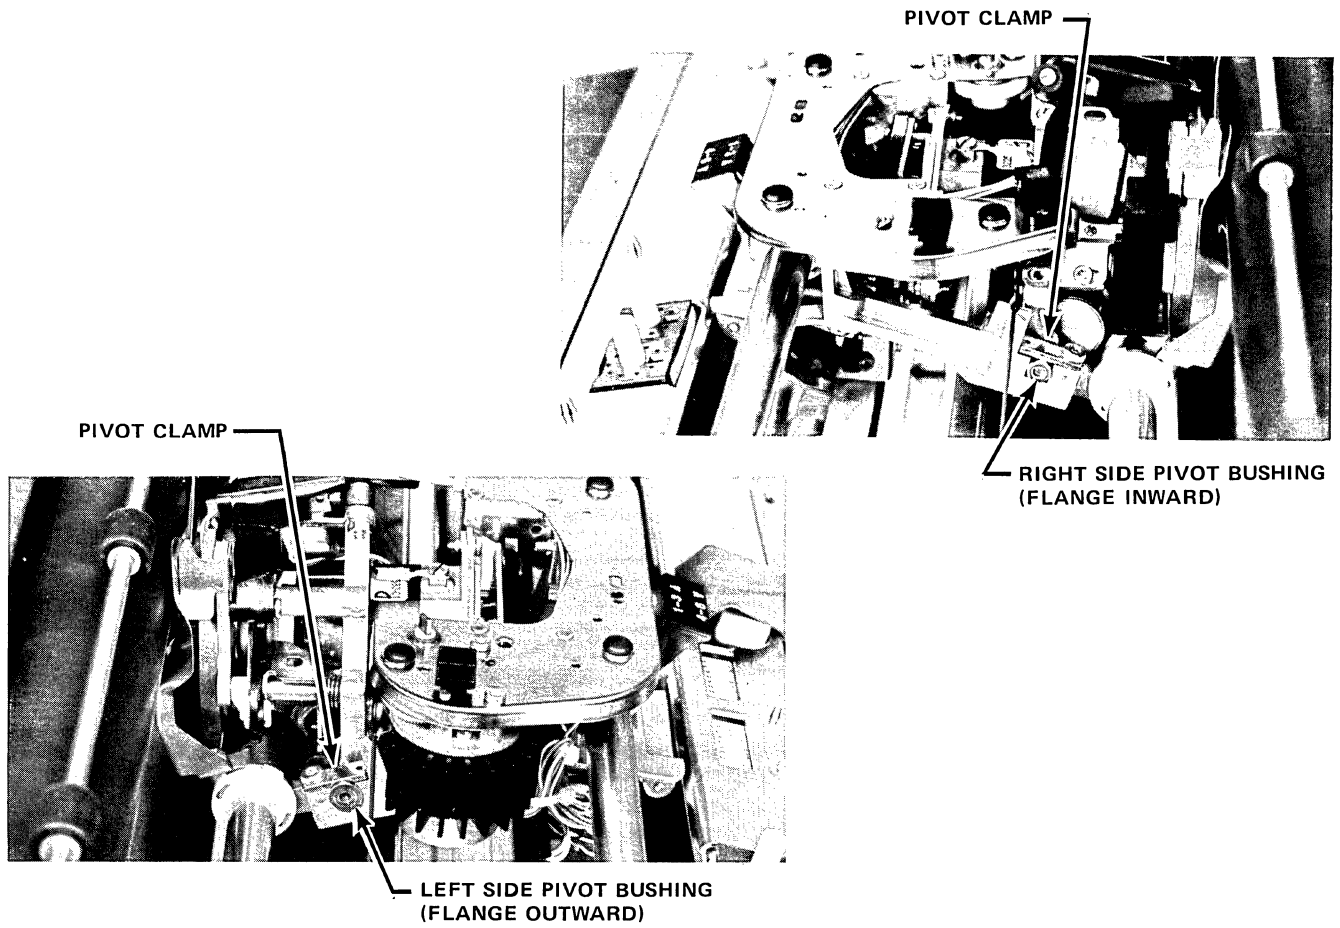
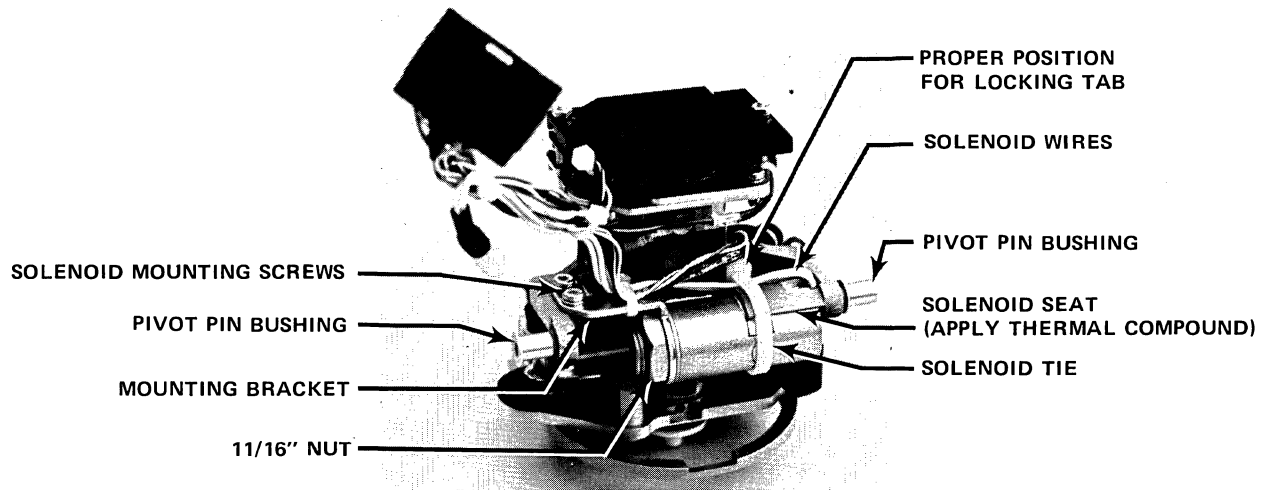

Figure 4-32. ECS CARRIAGE PIVOTS
Figure 4-33. ECS CARRIAGE PIVOT ASSEMBLY
- 8) Loosen the two pivot clamps (Fig. 4-32) holding the pivot assembly in place on the lower carriage assembly, and swing the clamps outward to release the pivot bushings.
- 11) Remove the two screws holding the ECS solenoid mounting bracket to the pivot assembly (Fig. 4-33).
- 12) Cut the cable tie holding the solenoid to the pivot assembly (Fig. 4-33), and remove the solenoid.
- 1) Apply a coating of thermal compound to the solenoid seat on the pivot assembly (Fig. 4-33) where it will contact the solenoid.
- 3) Install the mounting bracket onto the new solenoid assembly. Before tightening the mounting nut, ensure that the bracket extends out from the solenoid in the same direction as the solenoid wires (Fig. 4-33).
- 7) Install and loosely tighten the two screws that hold the solenoid mounting bracket to the pivot frame (Fig. 4-33).
- 8) Install a large cable tie to loosely clamp the solenoid and solenoid wire to the solenoid mounting plate (Fig. 4-33). **DO NOT TIGHTEN THE CABLE TIE SECURELY OR CUT THE TAIL OFF THE CABLE TIE AT THIS TIME. THIS WILL BE DONE AFTER THE SOLENOID HAS BEEN ADJUSTED.**
- 9) Adjust the solenoid as described in subsection 5.12. When adjustment is finished, ensure that the solenoid-clamping cable tie has been tightened, that its tail has been cut off, and that its locking tab is positioned as shown in Figure 4-33.
- 10) Apply a light film of multipurpose grease to the pivot pins on the pivot assembly (Fig. 4-33), and then slide the bushings onto the pivot pins. Be sure that the left bushing is installed with its flange outward as shown in Figure 4-32, to prevent interference with the solenoid plunger.
- 11) Lower the pivot assembly onto the lower carriage assembly and loosely tighten the bushing clamp plates (Fig. 4-32).